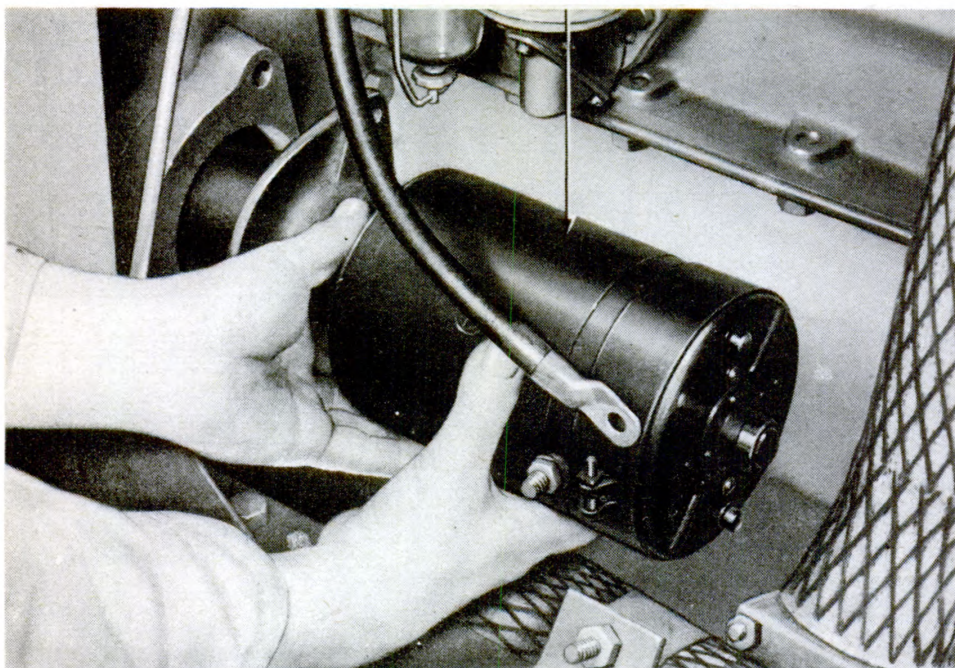

Figure 63 — Starting Motor Removal
d. Removal (fig. 63). **NOTE:** Procedure the same for either starting motor.
(1) Remove nut attaching starter switch wire lead to post on the frame of the starting motor.
(2) Take out three cap screws and lock washers holding starting motor to engine bell housing and lift off starting motor.
e. Installation (fig. 63).
(1) Place starting motor in position on engine bell housing, securing it with the three cap screws and lock washers.